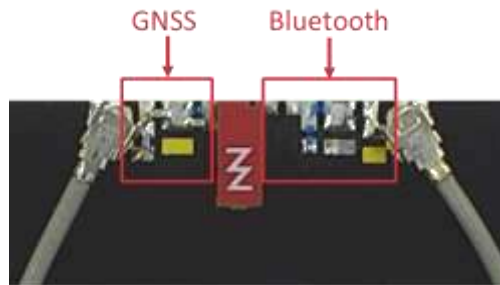
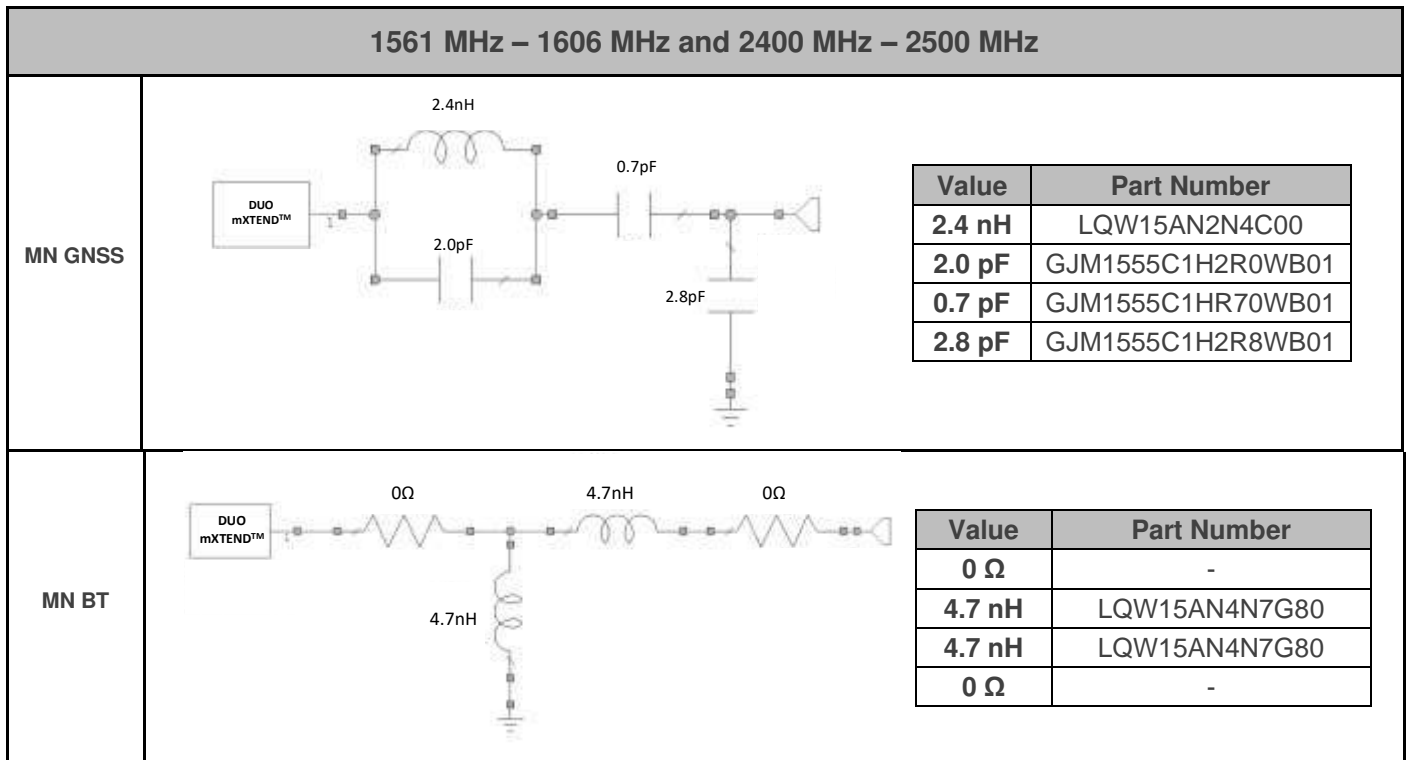

Figure 2 – Matching network distribution in the Evaluation Board (Figure 1).
Figure 3 – Matching network implemented in the Evaluation Board 1 port (Figure 1).
DUO mXTEND™ needs two matching networks to connect to your device, a first for the Bluetooth port, a second for the GNSS one (Figure 2). This section describes in (Figure 3) a suitable matching network for DUO mXTEND™ and the resulting product specs when measured in the reference evaluation board (EB_NN03-320-m-GNSS-BT) described in the previous section. Please note that different tracking devices with different form factors, RF ground planes and nearby components may need a different matching network. If you need assistance to design your matching network beyond this application note, please contact support@fractusantennas.com, or try our free-of-charge **NN Wireless Fast-Track** design service, you will get your chip antenna design including a custom matching network for your device in 24h¹. Other related to NN's range of R&D services is available at: <https://www.fractusantennas.com/rdservices/>
To ensure optimal results, the use of high-quality factor (Q) and tight tolerance components is highly recommended (e.g. Murata components with part numbers as in Figure 3). The antenna performance is always conditioned by its operating environment so that different devices with different printed circuit board sizes, components nearby the antenna, LCD's, batteries, covers, connectors, etc. affect the antenna performance. Accordingly, it is highly recommended placing pads compatible with 0402 and 0603 SMD components for a matching network as close as possible to the feeding point of the antenna element. Do it in the ground plane area, not in the clearance area. By tuning the matching network in your final design with your final surrounding components (batteries, displays, covers, etc.) you will be able to optimize the antenna performance without changing the antenna part.